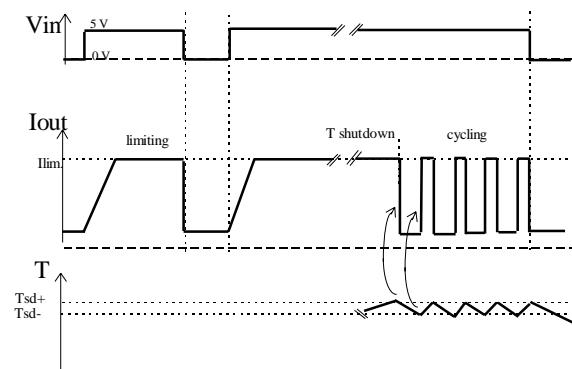

Figure 2 - Protection timing diagram
| T_{sd+} | Over-temp. positive going threshold | — | 165 | — | °C | See fig. 2 |
| T_{sd-} | Over-temp. negative going threshold | — | 158 | — | °C | See fig. 2 |
| V_{sc} | Short-circuit detection voltage (3) | 2 | 3 | 4 | V | See fig. 2 |